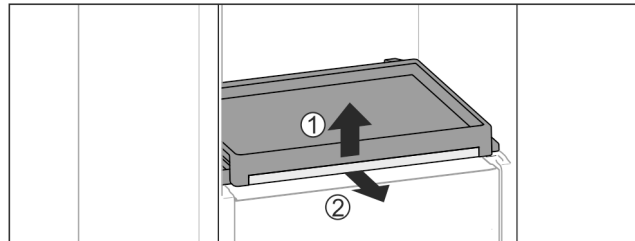

Fig. 111
- ▶ To remove the pull-out board with glass panel: Gently lift the glass panel at the front Fig. 111 (1) and pull out to the front Fig. 111 (2).